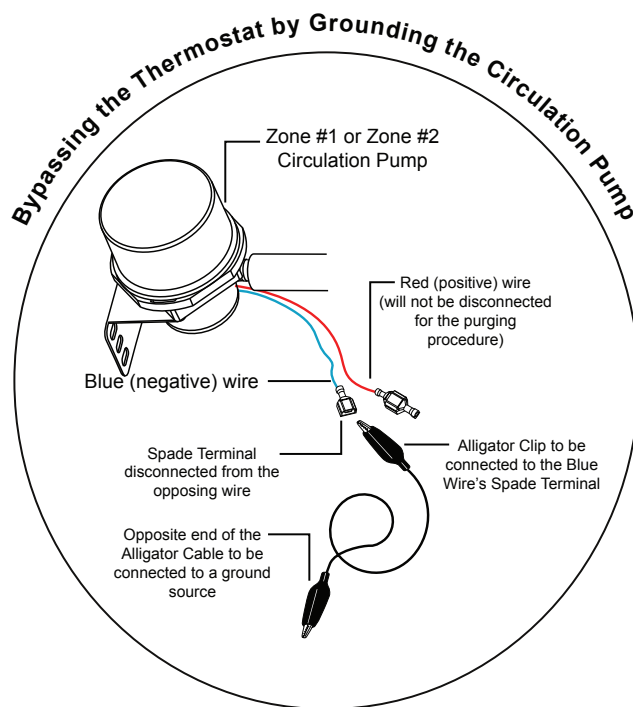

Figure 50
8. Once the systems have been purged, disconnect the alligator clips from the ground source and the circulation pump's wires. Reconnect the pump's wires as originally configured. Reference Figure 50.
Reference Figure 50.